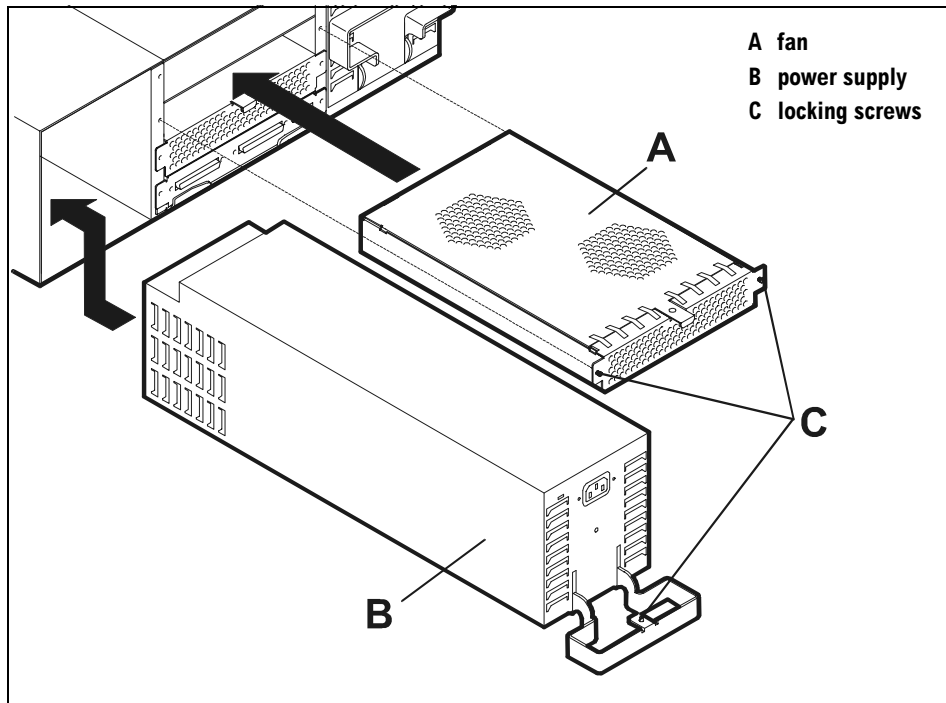

Figure 33 Install Optional Fan and Power Supply
1. With the pull-out tab at the top and facing you, insert the fan (A in Figure 33) in the second slot from the top.
2. With the handle down and facing you, slide the power supply (B in Figure 33) into the left slot. Stop pushing when you feel the resistance of the power supply against the backplane. About $\frac{3}{8}$ inch (8mm) of the power supply will be protruding from the chassis.